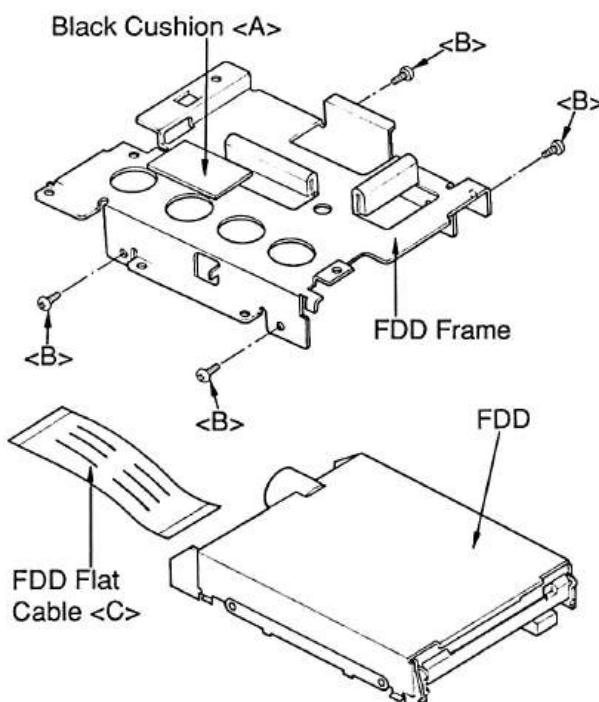

Figure 17
- (3) Gently peel off the black cushion <A> from the FDD frame as shown in Figure 17 and save it for the next use.
- (4) Remove four screws  (3Øx6) from the FDD frame as shown in Figure 17.
- (5) Detach the FDD flat cable <C> from the FDD.
Note: When connecting the FDD flat cable to the FDD, be sure the surface marked with the name of the cable manufacturer is facing upward as shown in Figure 17.